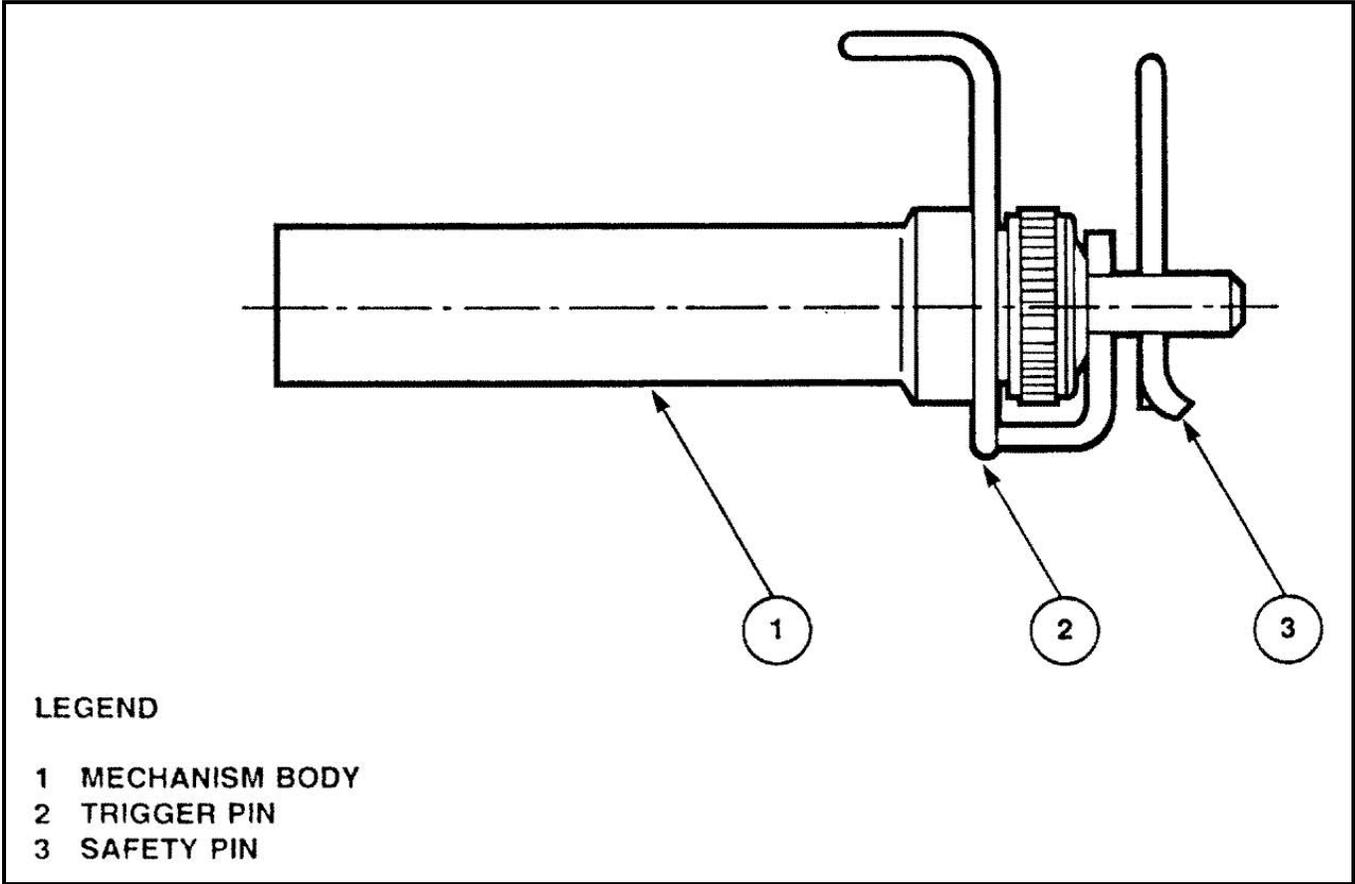

Figure 3 Firing Device M42/P
**PERCUSSION IGNITER** (See Figure 3)